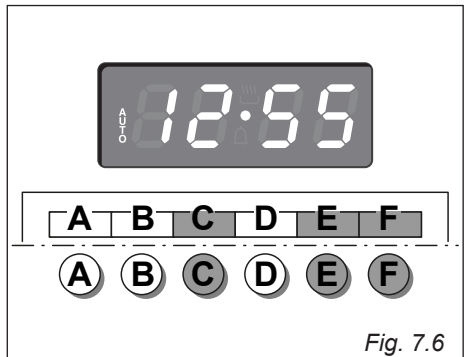

Fig. 7.6
2. Set the end of the cooking time by pressing the “C” button (the cooking time already added to the clock time will appear) and the “F” button (fig. 7.6); if you pass the desired time you may get back by pushing the “E” button.